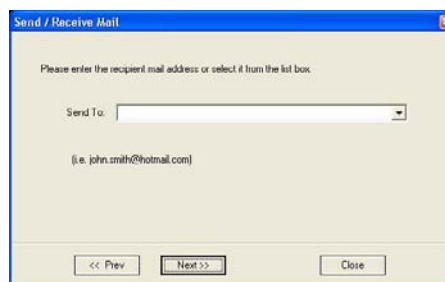

Figure 3-124 E-mail Address Window
- 3.) From the Email Address Window (Figure 3-124 on page 3-133), select the appropriate recipient address from the drop-down menu, or type the address in the **Send To** field.